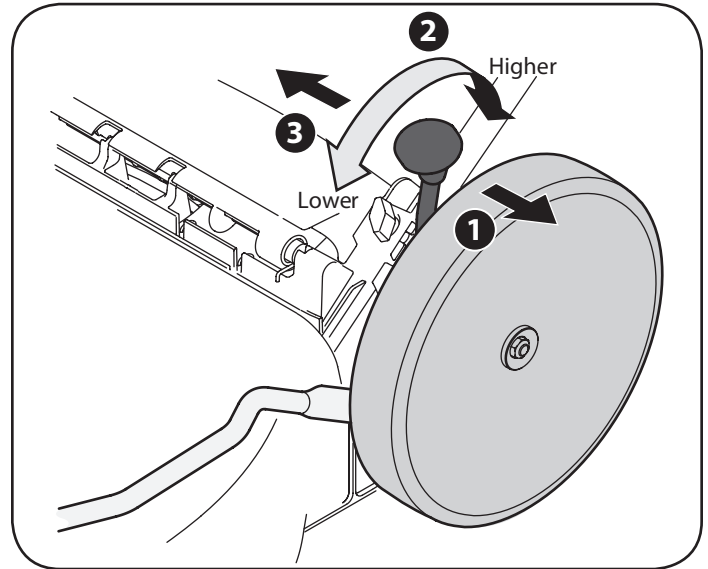

Figure 10
1. Pull the height adjustment lever outward towards wheel (unit will tend to fall when lever is moved outward). See Figure 10.
2. Move lever to desired position for a change in cutting height. See Figure 10.